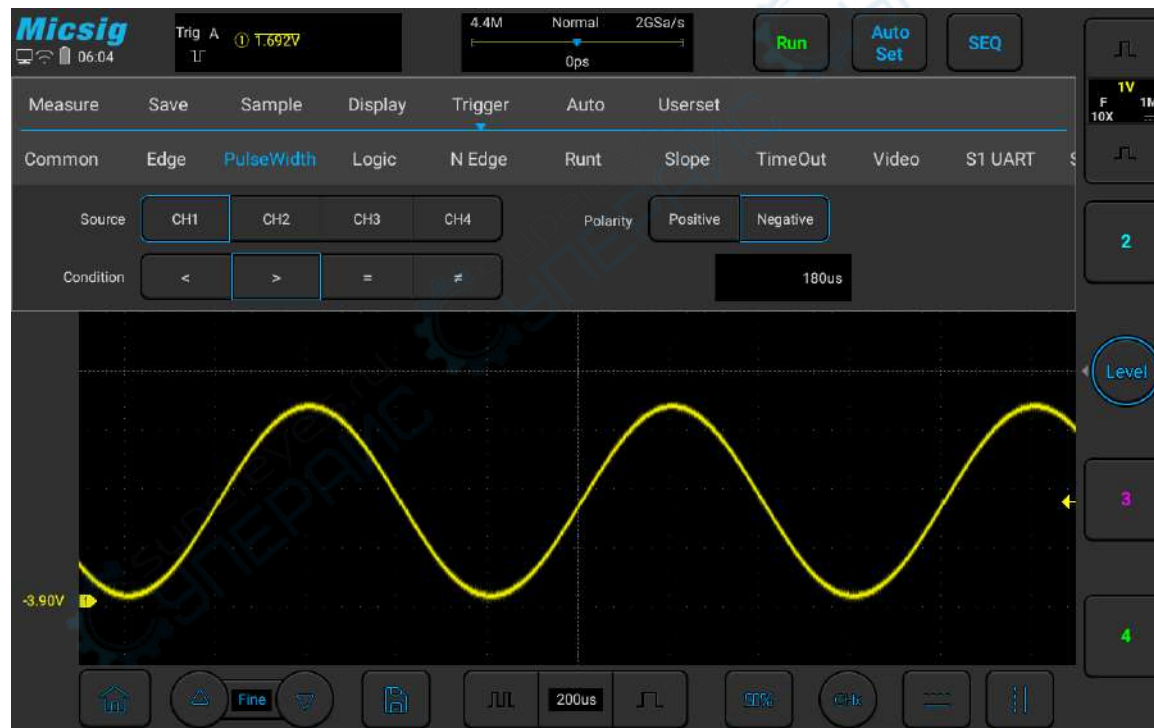

Figure 5-15 Negative Polarity Pulse Level Flip
lower than current trigger level (CH1 negative pulse indication icon $\lrcorner \text{① } 1.00\text{V}$). When triggered on positive polarity pulse, if the restrictions are true, the trigger will happen on the high-to-low transition of the pulse; when triggered on negative polarity pulse, if the restrictions are true, the trigger will happen on the low-to-high transition. (Figure 5-15 Negative Pulse Level Flip)